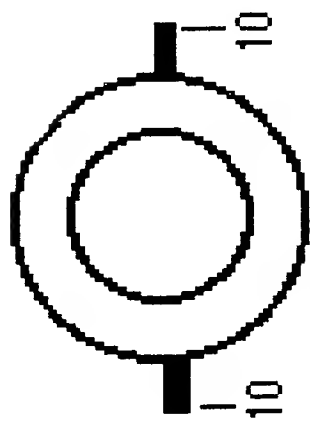

FIG. 5A
- Fig 5A shows top view of spark plug ~~(tip)~~ ^A TERMINAL with built-in slot-pins.